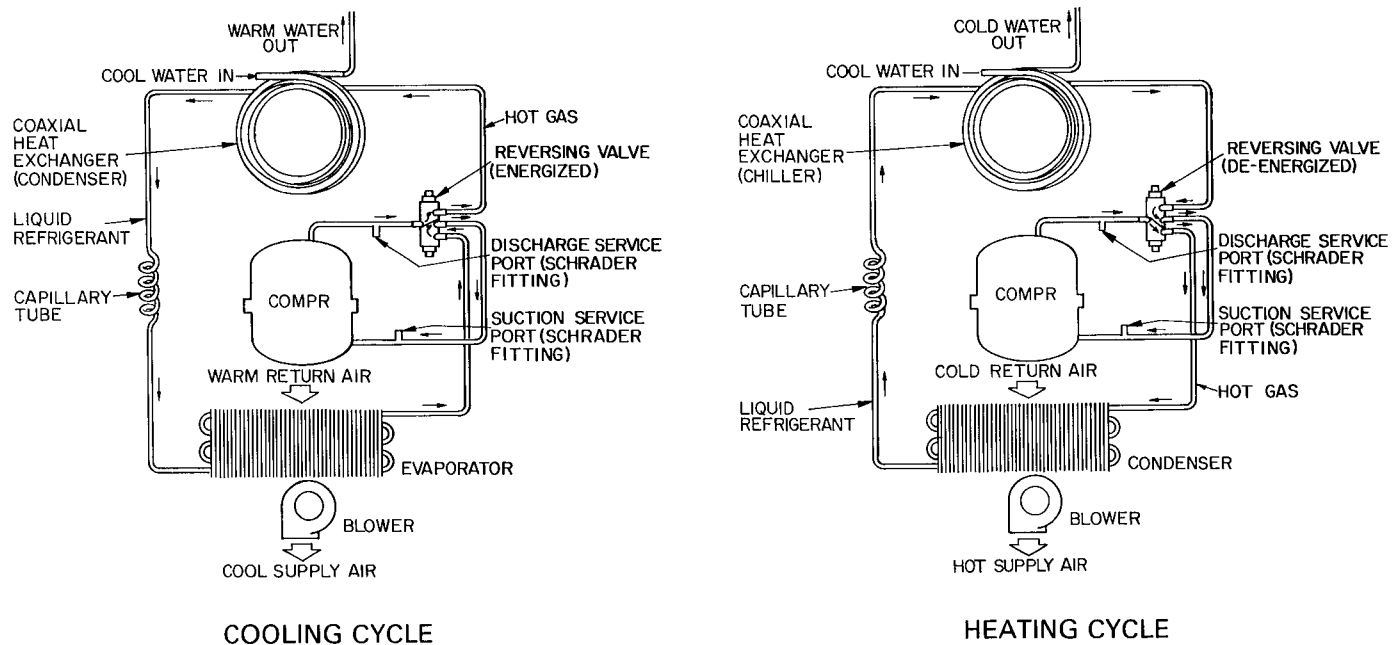

Fig. 8 — Refrigerant and Water Flow Diagrams — 50HQ,VQ
**HEAT PUMP CIRCUITS**, shown in Fig. 8, are refrigerant and water flow diagrams for heating and cooling cycles.
during heating or cooling season, weigh in total charge indicated in Table 4. Remove any refrigerant remaining in system before recharging. If system has lost complete charge, evacuate system to 500 microns (29.7 in. vacuum) before recharging. Service port connections are provided on high and low sides of refrigerant system for evacuation and charging. (See Fig. 8 for service port location.)